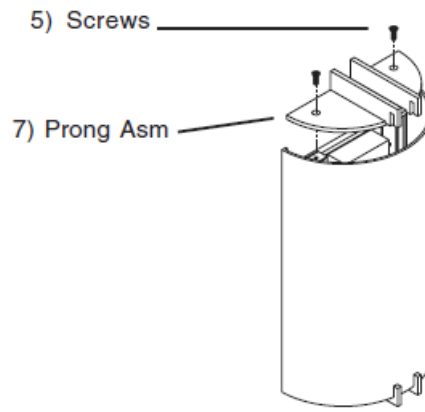

Fig 8
3. Position and hold Diffuser (2) in grooves on installed prong assembly while aligning holes in second prong assembly with holes in top of mounting bracket and secure with Screws (5) See Fig 8.
4. **DLSD1, DLSD2, DLSD5, DLSD10, DLSD11, DLSD12, & DLSD16** – Position Diffuser (2) over Mounting Brackets (3) while aligning holes in diffuser with holes in brackets, secure with Screws (5) See Fig 8.